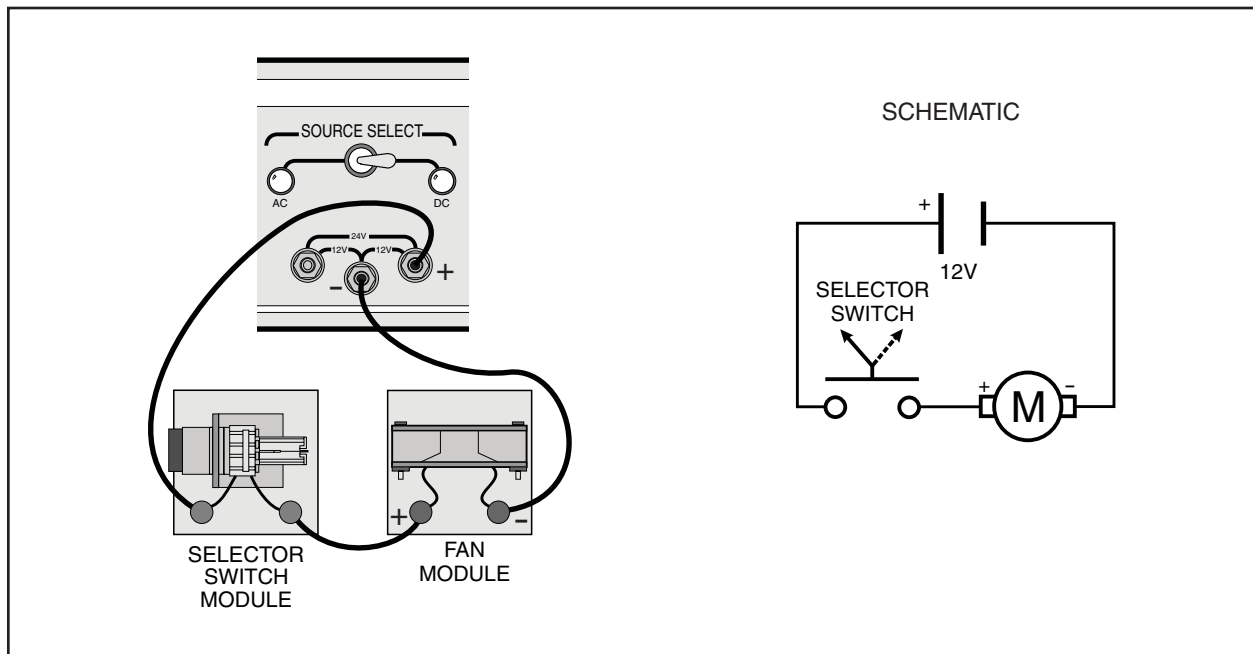

Figure 7-1. A Schematic Diagram and Pictorial of a Circuit with a Selector Switch and a Motor
- 2. Connect the circuit shown in the schematic diagram in figure 7-1. Be sure to observe the polarity of the fan motor when you connect it.